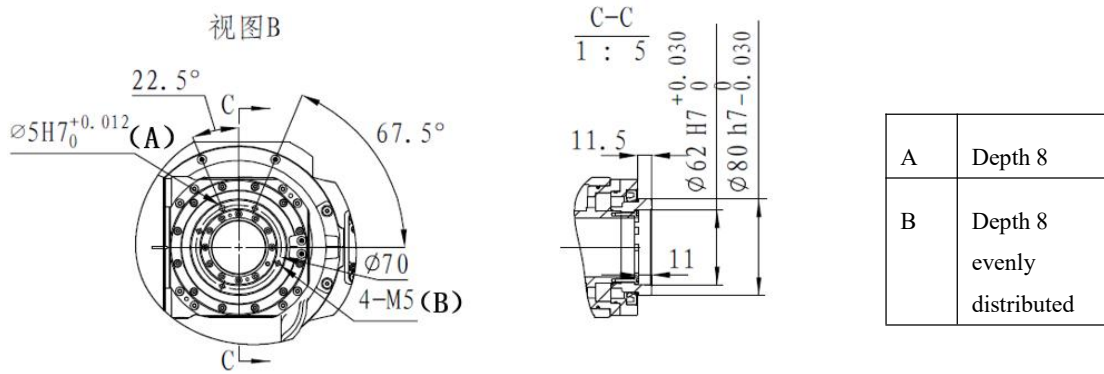

Figure 3.9 SA6/1440H tool flange installation dimensions
4. The installation dimensions of the SA6/1440H tool flange are shown in Figure 3.9.